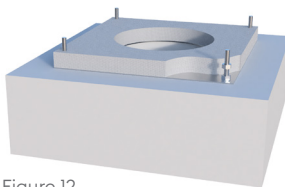

Figure 12
6. Position a nut and washer, so that the top of the nut is approximately 38mm from the Outer Surface Plate (E) on each of the four threaded rods. Using the 50mm thick insulation blanket, cover the Outer Surface Plate and carefully cut the centre hole. Ensure that there is total continuity of insulation over the area and the insulation is up tight to the central hole as Figure 12.